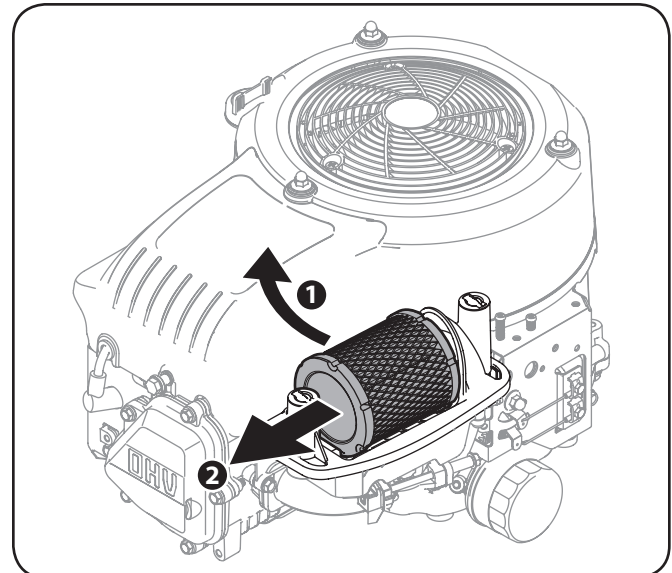

Figure 6-5
3. Pull up on an angle and then forward to remove the air filter. See Figure 6-5.